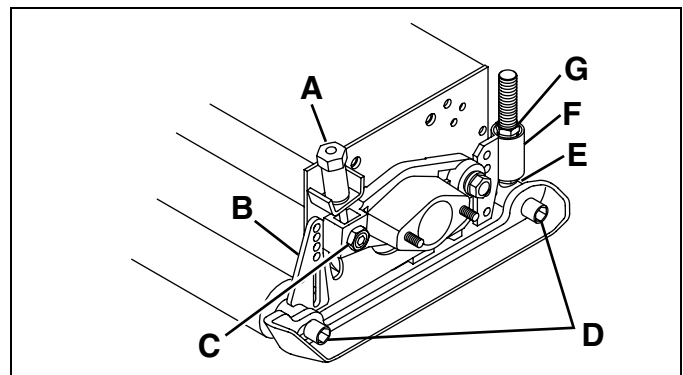

Figure 3N
6. Loosen skid mounting hardware (D - Figure 3N) then adjust the cutting height. (A special tool is provided with the mowers. A 5/8 in. socket and ratchet are required).